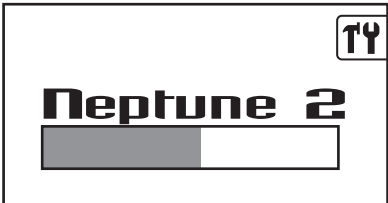

Figure 10 Neptune Splash Screen
4. Continue to push the display button until the Neptune 2 splash screen appears. The system setup screen will appear after the splash screen (see figure 10).